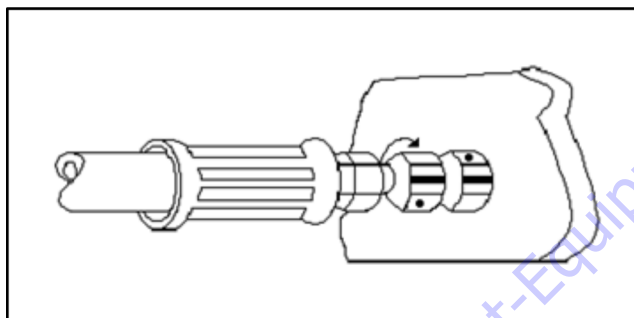

Figure 5-13. FFWR Method
2. Mark a dot on one of the swivel hex nut flats and another dot in line on the connecting tube adapter. See Figure 5-13.
3. Use the double wrench method, turn the swivel nut to tighten as shown in Figure 5-13. The nut is to be rotated clockwise the number of hex flats as defined by the applicable Table in Section 5.0.
4. After the connection has been properly tightened, mark a straight line across the connecting parts, not covering the dots, to indicate the connection has been properly tightened. See Figure 5-13.